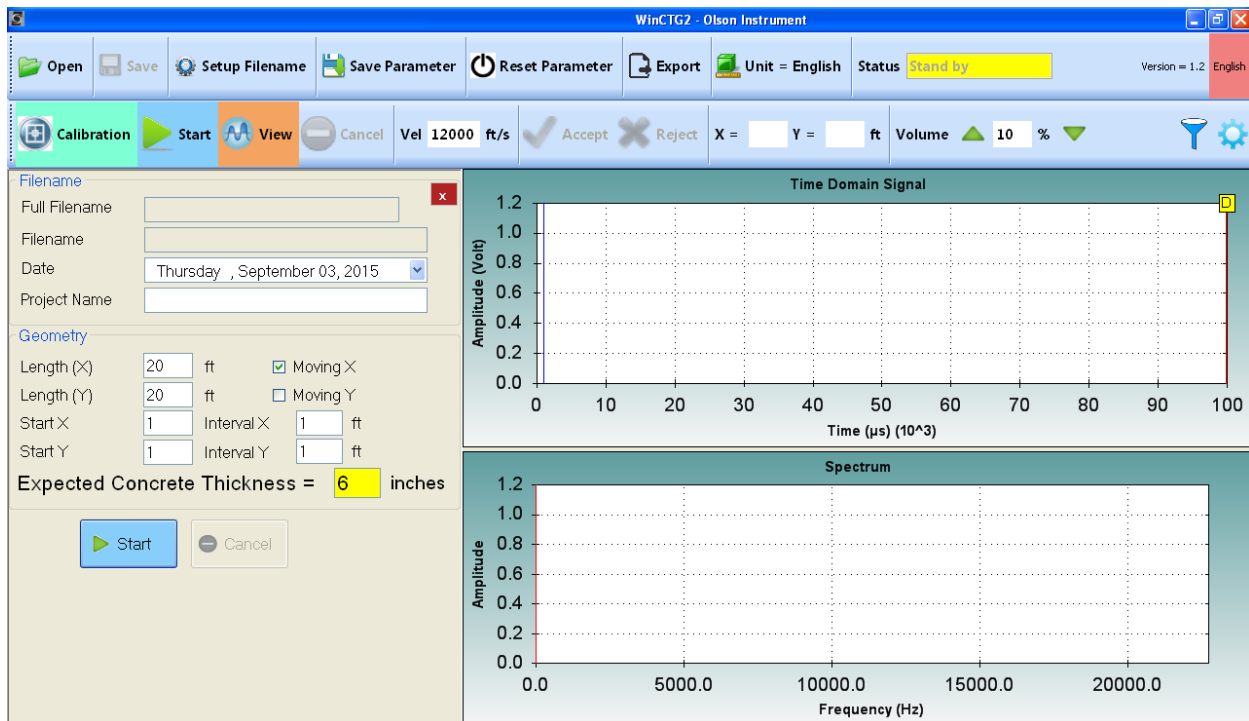

Figure 2 – Main Screen for WinCTG2 Software
1. Turn on your tablet or laptop (with the hardware connected and turned on as described in Section 2.0) and select the WinCTG2 shortcut on the desktop. The software will open as shown in Figure 2 below. Within the Waveform Data Panel, the top plot box shows the current time domain data and the bottom plot box shows the frequency spectrum. Per the "Status" field in the Main Menu, the program is currently in "Stand by" mode.